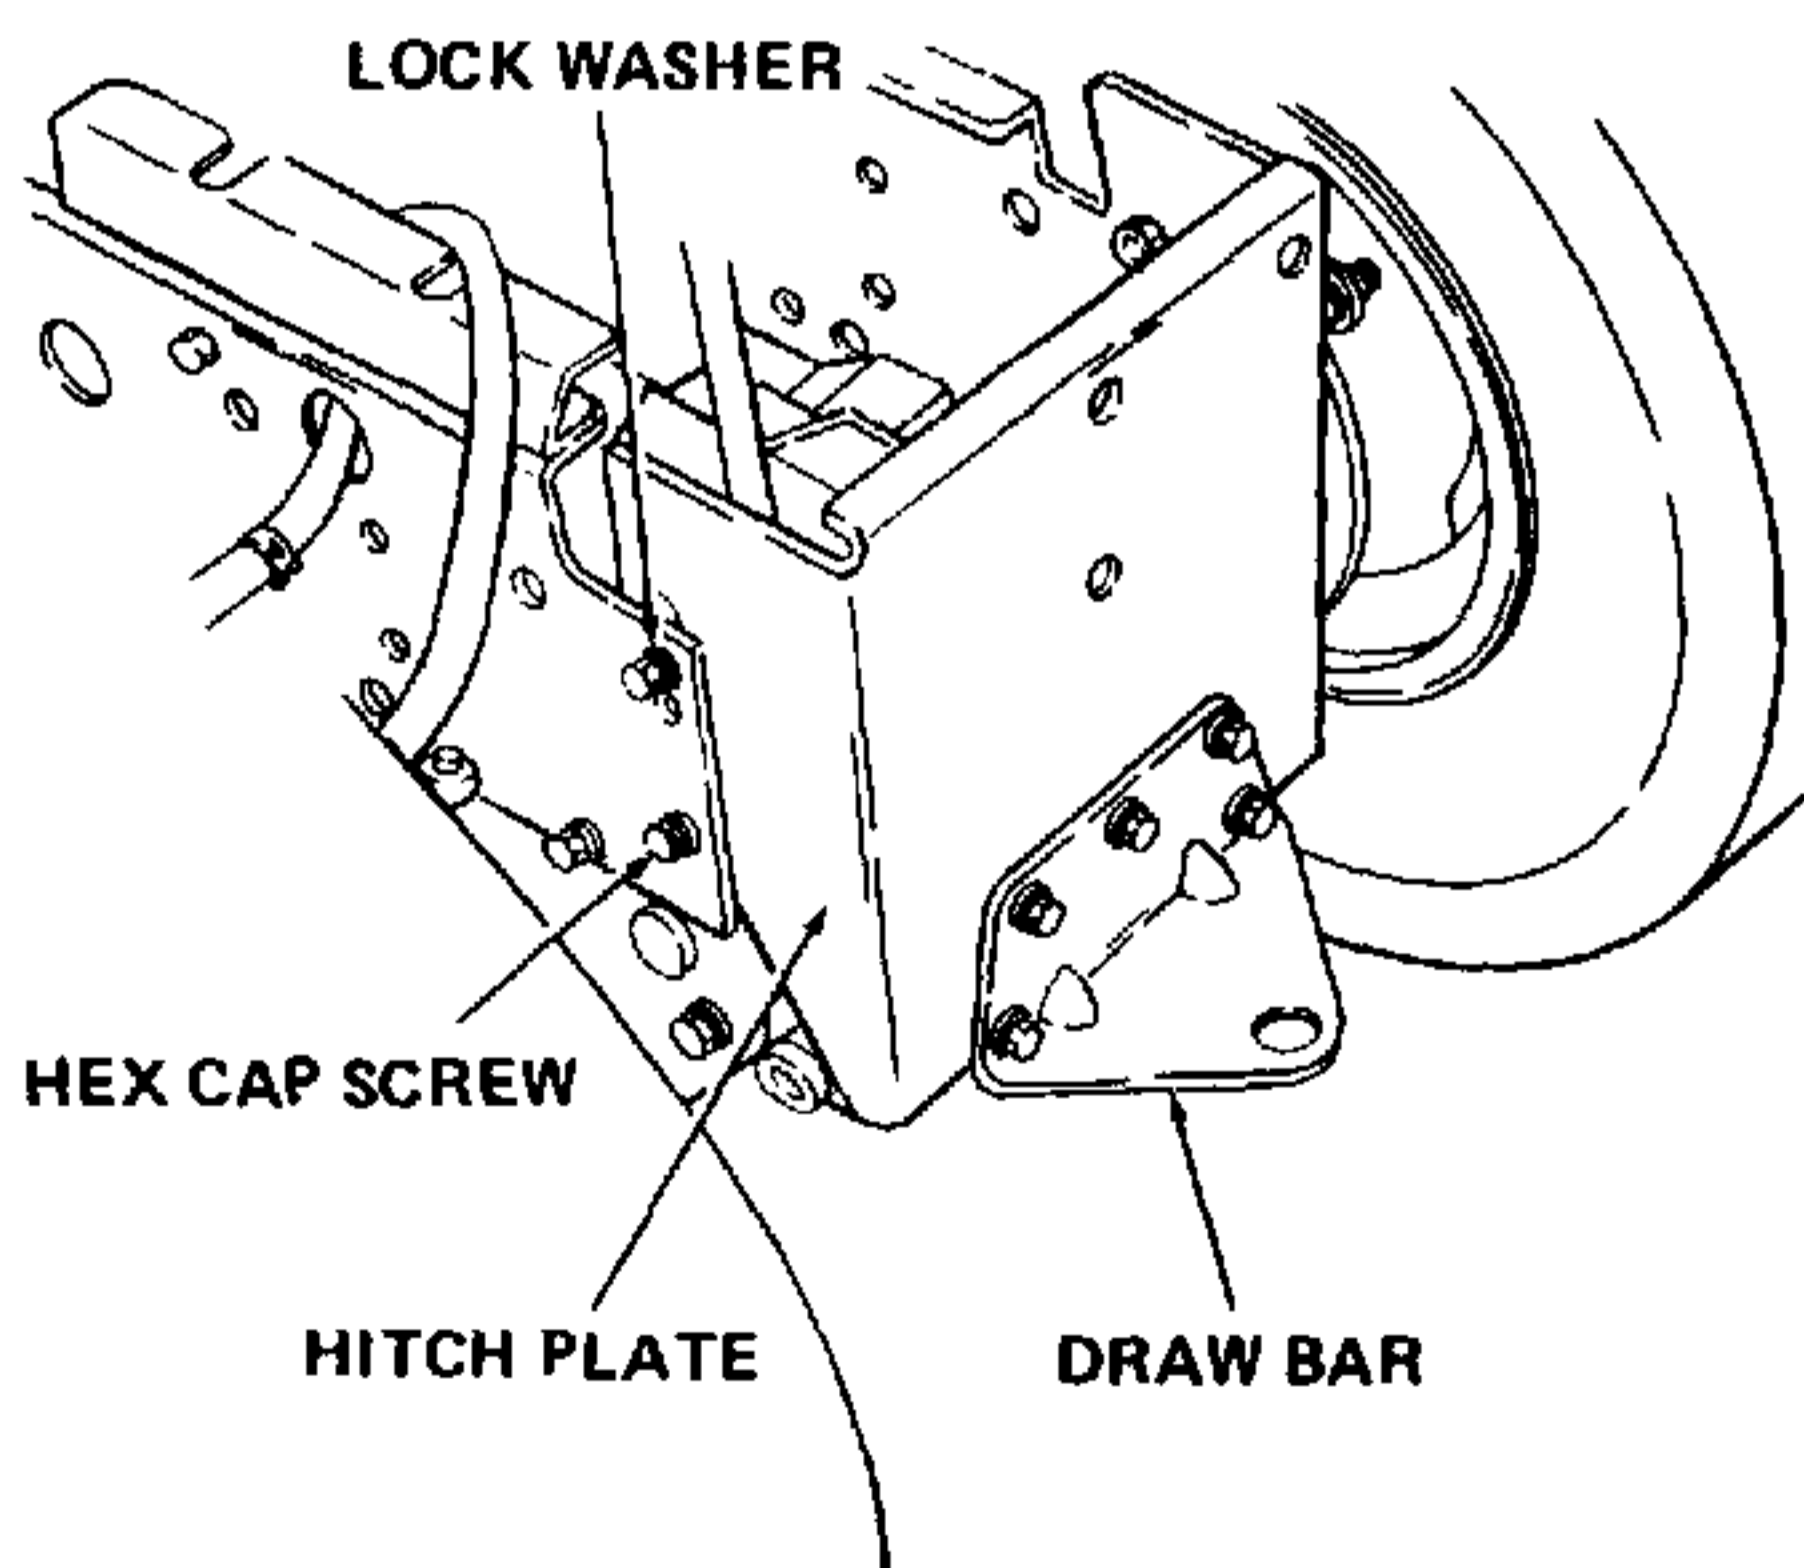

Figure 7-6. Removing Hitch Plate Assembly.
12. Remove hitch plate assembly and draw bar by removing four hex cap screws and lock washers. Refer to Figure 7-6.